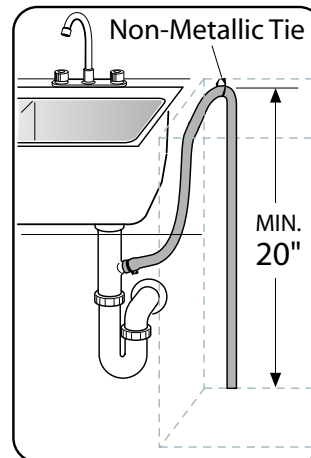

Figure 8
1. Directly to the undersink dishwasher drain connection, as shown in **Figure 8**.